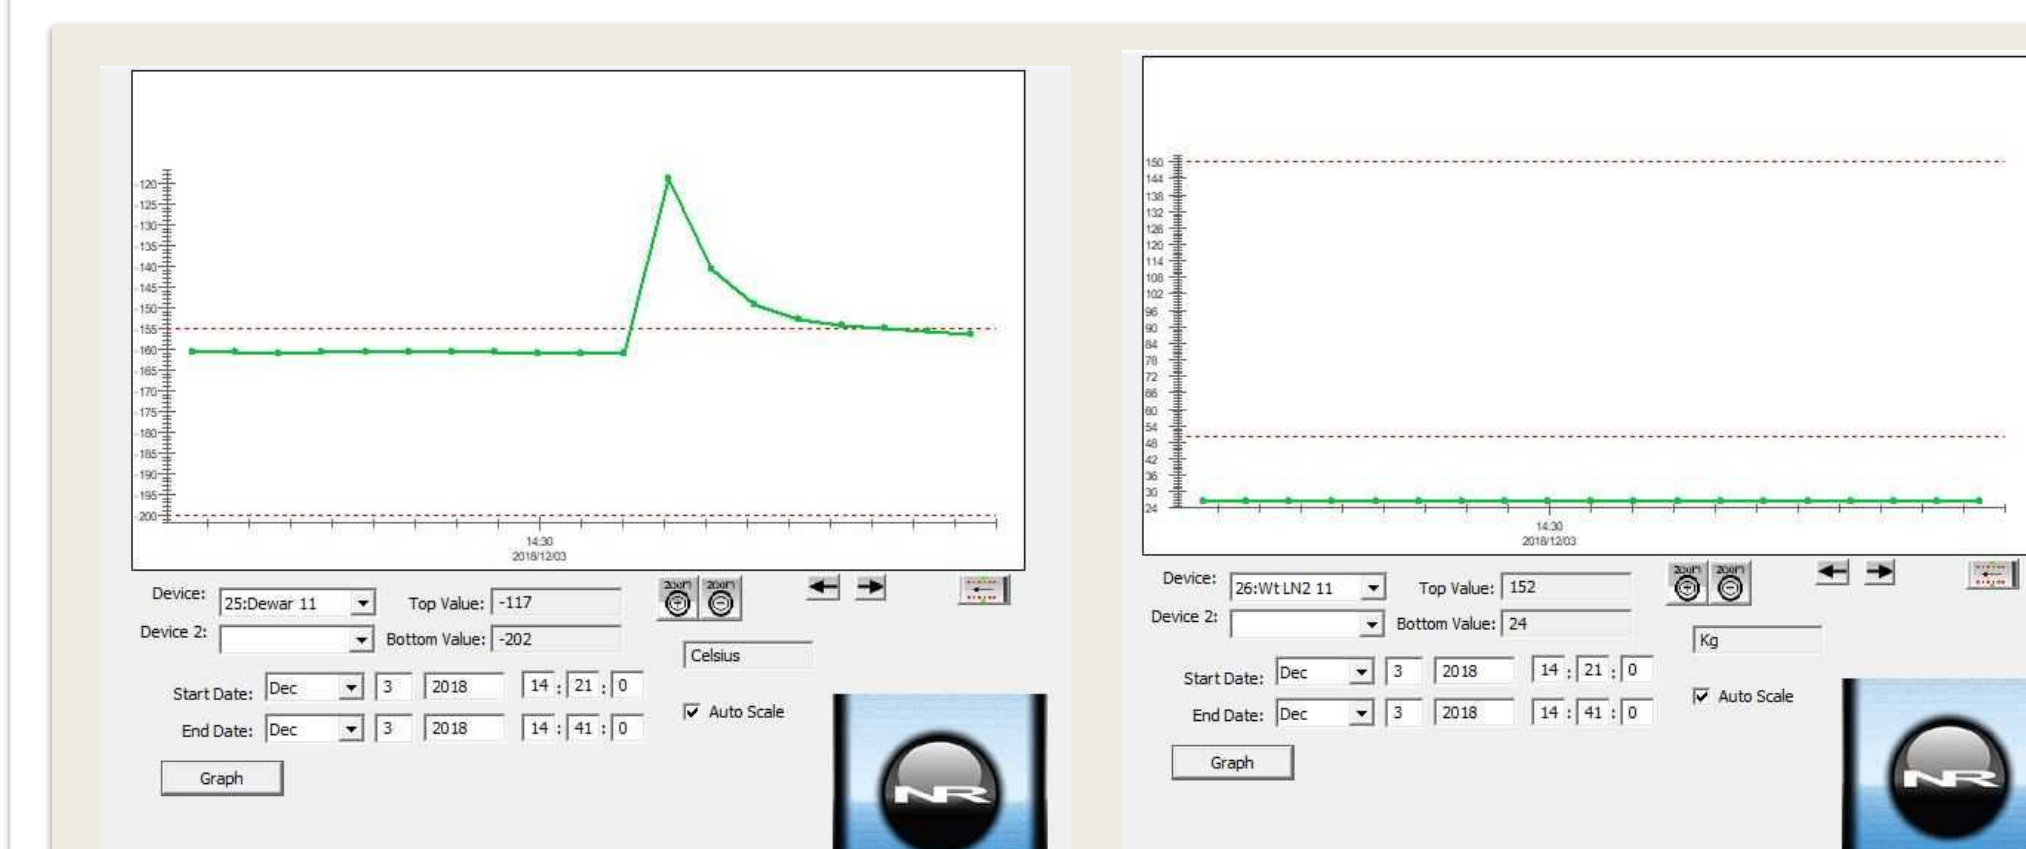

Figure 5: Graphs produced by NR's Tempurity Monitor upon addition of a single 0.02kg (20gm) specimen
Figure 5: (left) Graph of weight of a leaking water tank. Leaking is stopped at timestamp 120. (right) Predicted time until empty during the time up until the leaking is stopped
- **Figure 5** shows an increase in temperature but no change in weight; current scale only measures up to 0.1kg accuracy